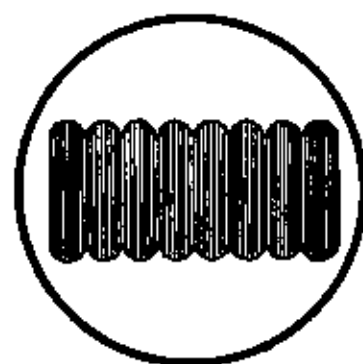

FIG. 4
- (7) Switch the EMISSION switch to lower sideband (LSB) position. The ripple amplitude may increase slightly in this position. If this is the case, readjust the slug of L2 for minimum ripple amplitude. Switch back and forth several times between upper sideband (USB) and lower sideband (LSB) emission, adjusting the slug of L2 for the best "balance" between residual ripple amplitude. When this step is complete, the oscilloscope pattern should appear essentially identical in both positions, and the ripple amplitude should be very slight.
- (8) As an aid to making the above adjustments, figures 4, 5, and 6 indicate the patterns obtained with various conditions of maladjustment of the slug of L2, potentiometers R12 and R15, and the carrier balance potentiometers.